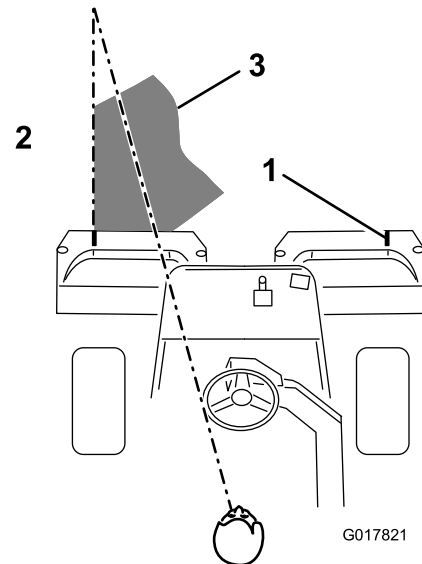

Figure 38
4. Overlap a minimal amount with the previous cut on return passes. To assist in maintaining a straight line across the green and keep the machine an equal distance from the edge of the previous cut, establish an imaginary sight line approximately 1.8 to 3 m (6 to 10 ft) ahead of the machine to the edge of the uncut portion of the green (Figure 38). Some find it useful to include the outer edge of the steering wheel as part of the sight line; i.e. keep the steering wheel edge aligned
with a point that is always kept the same distance away from the front of the machine (Figure 38).